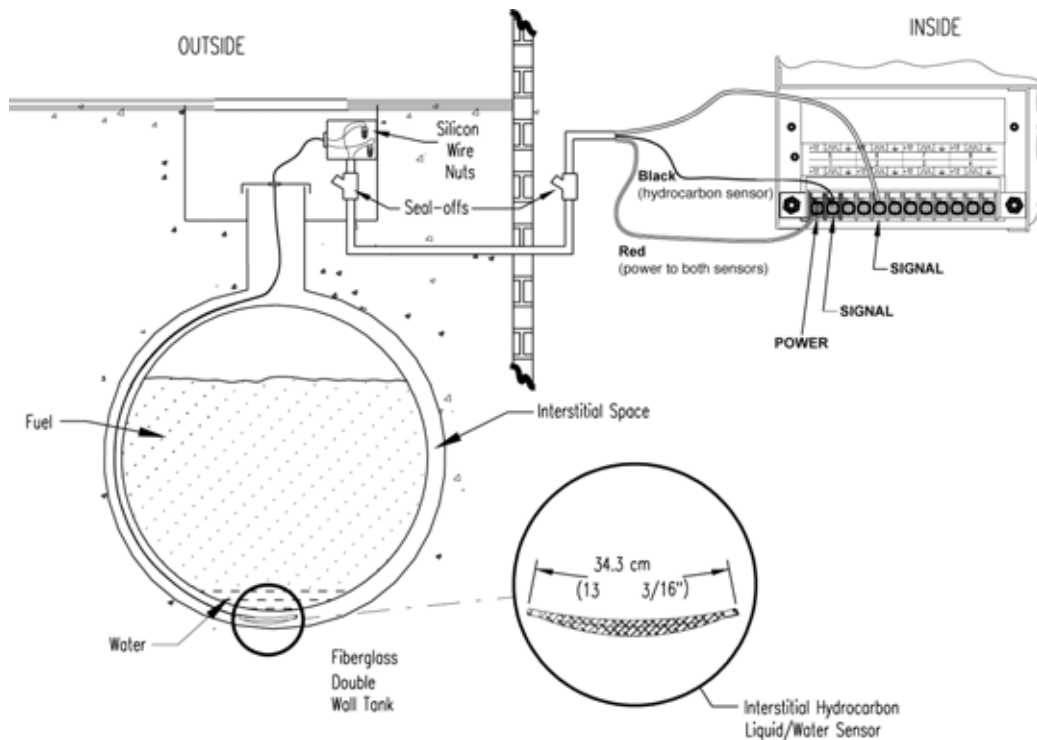

Figure 17: Interstitial (IS) Hydrocarbon Liquid/Water Sensor Installation
- Review Figure 17 on page 45. Use the supplied cable gland and silicone wire nuts.